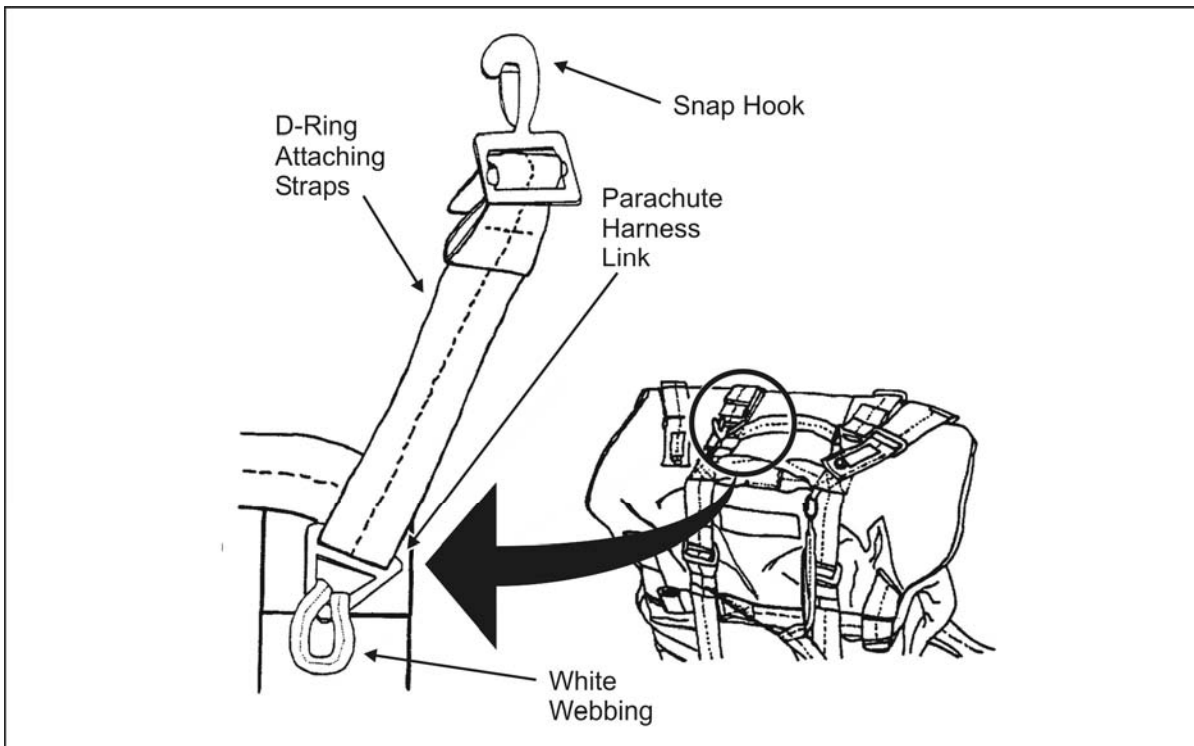

Figure 5-20. Inserting the White Webbing Through the Parachute Harness Link
- Feeds the white webbing of the SARPELS cargo carrier through the parachute harness link of the D-ring attaching straps (Figure 5-20, page 5-21). He ensures that the opening to the snap hooks of the D-ring attaching straps are facing down toward him.